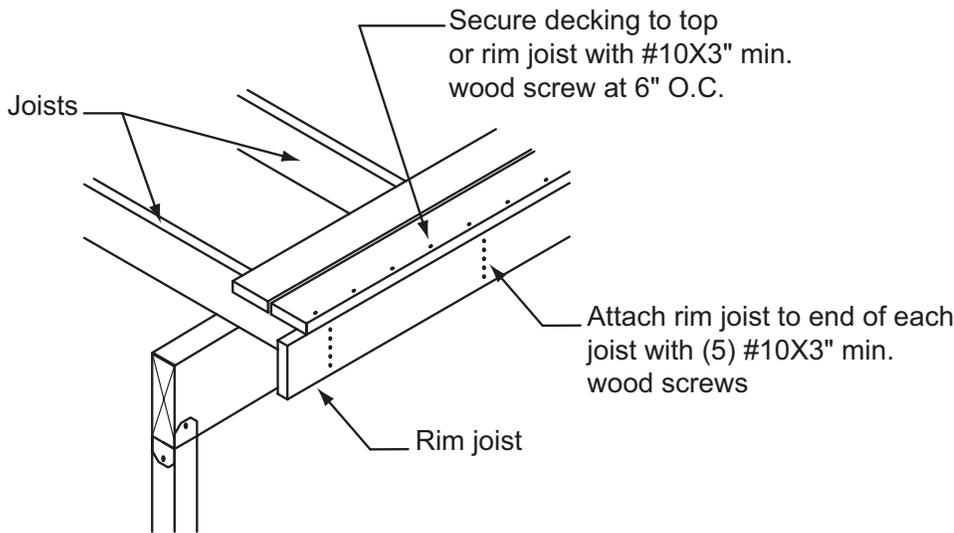
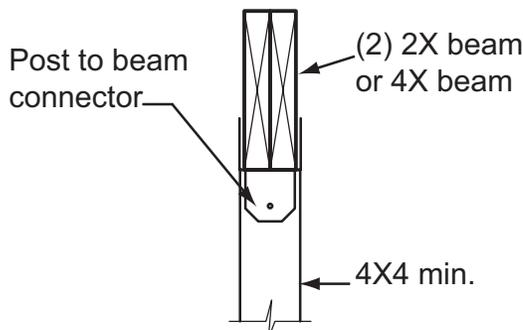
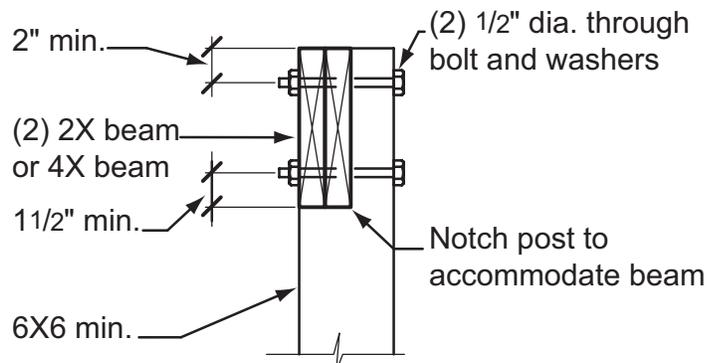

Fig. 18: Rim joist connection
Fig. 20 - Post-to-beam connection
Fig. 21 - Post-to-beam connection
Rim Joists: Attach a continuous rim joist to the ends of joists as shown in **Figure 18**. Note that the rim joists are required at both ends of joists in free-standing decks. Minimum rim joist dimensions shall be equal to the dimensions of the joist.
Post-To-Beam Connection: The post-to-beam connection shall be made with premanufactured mechanical connectors as shown in **Figure 20**. Post-to-beam connections may also be accomplished using a minimum 6x6 post notched for a 4x beam as shown in **Figure 21**. All thru-bolts shall have washers at the bolt head and nut.
3. See Figures 20, 21 for post to beam connection and figure 18 for rim joist connection